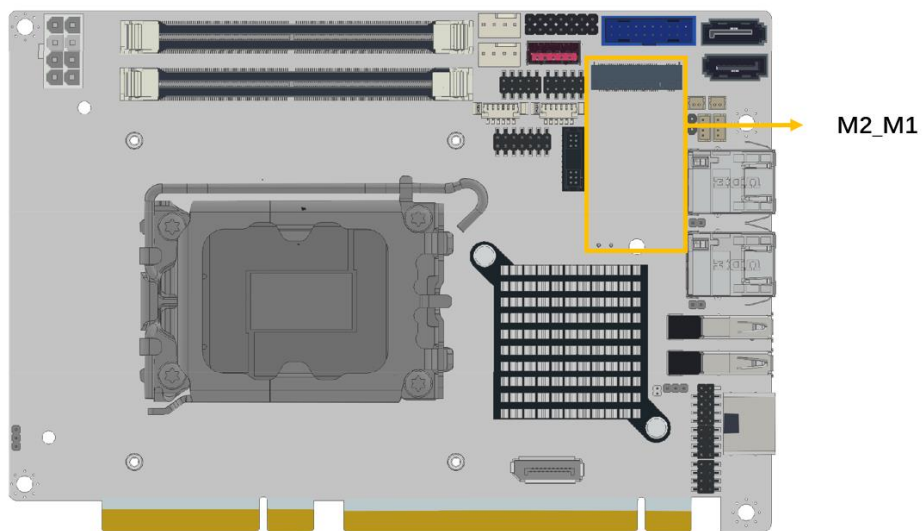

Figure 3-19: M.2 M Key (2242) Slot Location
- CN Location:** See Figure 3-19